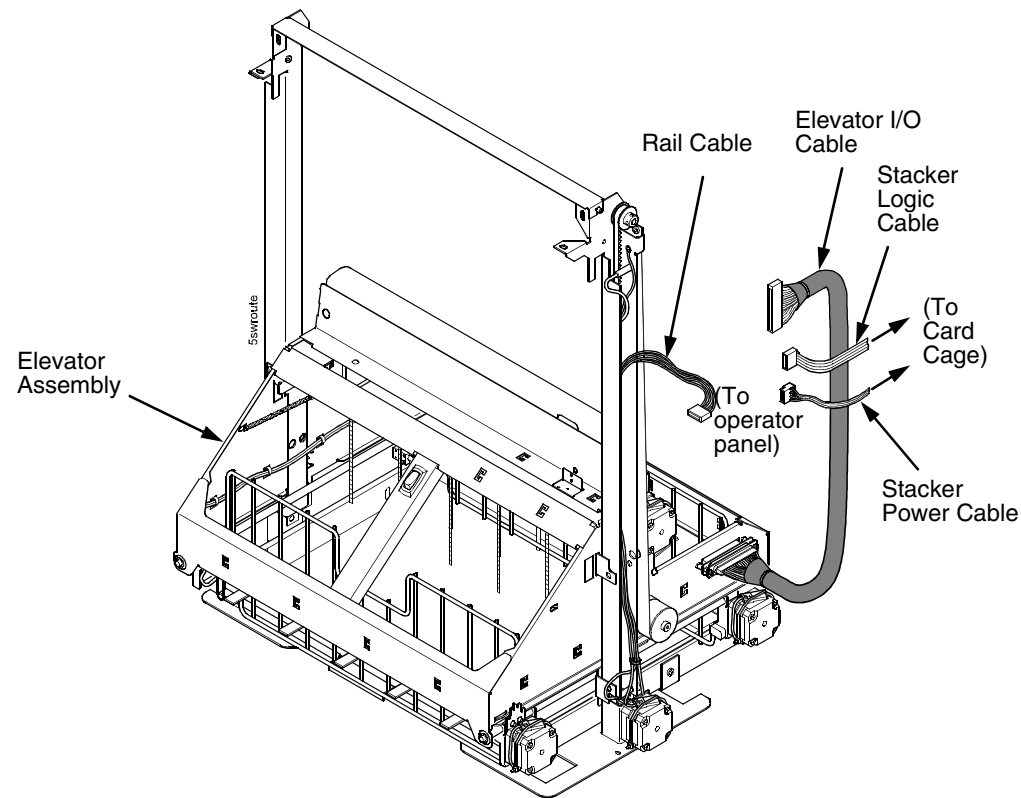

Figure 74. This figure shows how to route the stacker cables from the elevator and frame rail to the card cage.
15. Gather the stacker rail cable, elevator I/O cable, logic cable, and power cable. Route the cables outboard of the elevator assembly. (Figure 74.)